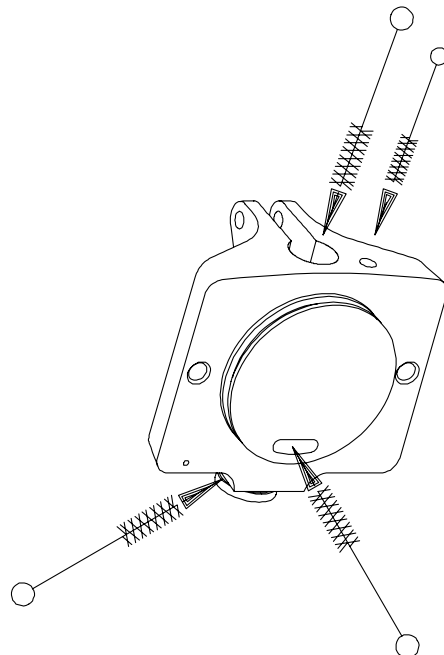

Figure 6-10 30RMT Clean head ports and openings with brush.
- The head plunger openings, plunger ports, O-ring grooves, dispense nozzle mounting rings, and mix ports, as shown in figure 6-10.